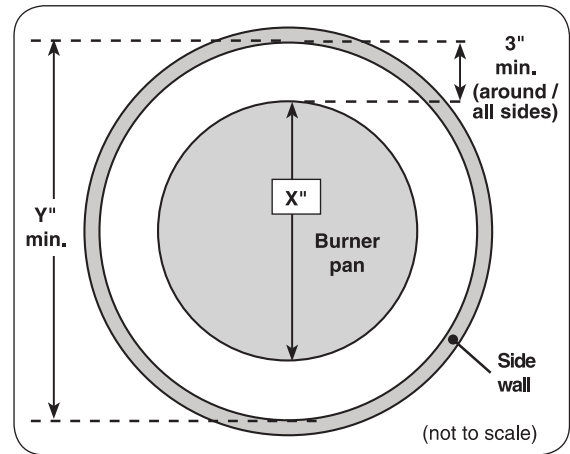
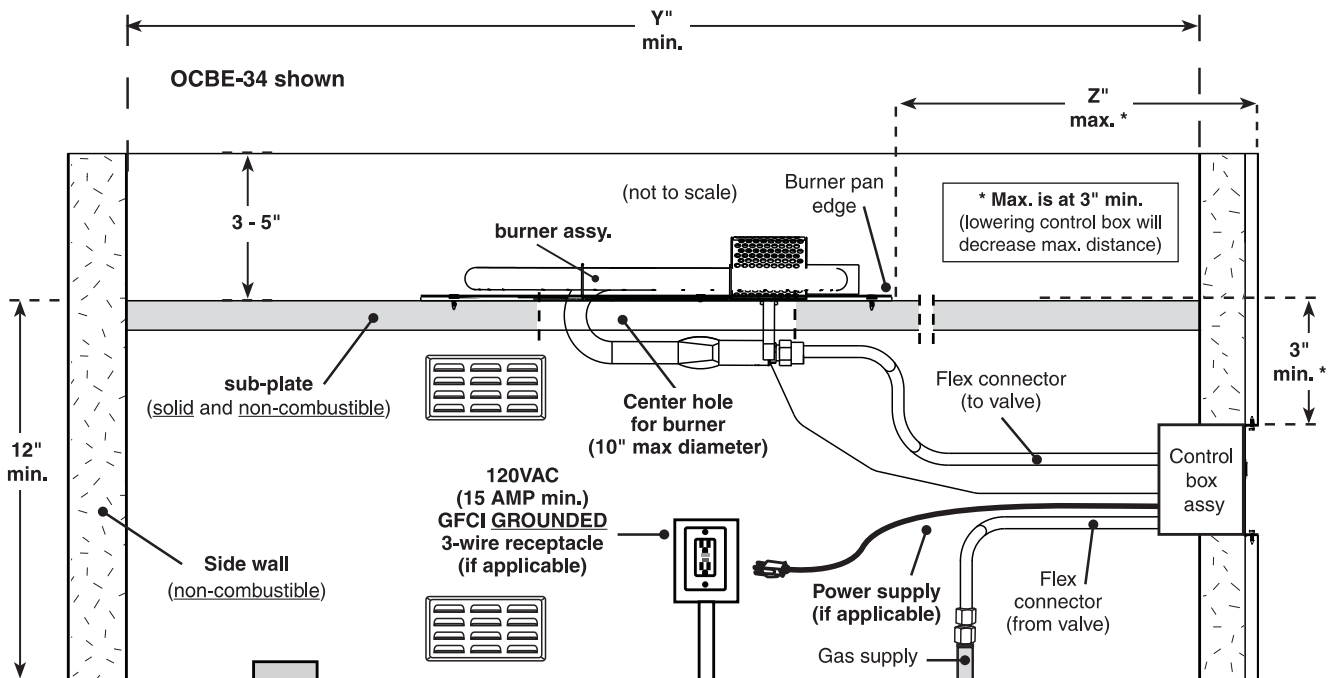

Fig. 10-1 Enclosure min. pit opening (top view)
Fig. 10-2 Enclosure specifications (side view)
The enclosure **MUST** (see Fig. 10-1 and Fig. 10-2):
- have a minimum pit opening of Y" (Fig. 10-1,2 & Table 7)
- meet all other requirements found in Fig. 10-1 and Fig. 10-2 below